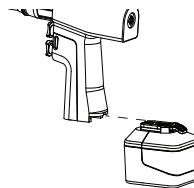

Figure 2 To Install Battery Pack
1. Slide a fully charged battery pack firmly into the handpiece until the battery latch snaps, indicating the battery pack is secure (see figure 2).